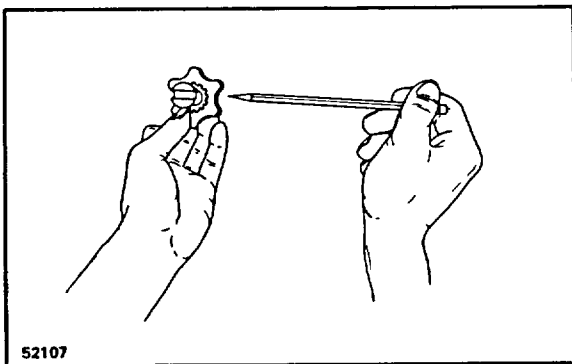

Figure 3-8. Alignment of Drive Slot
16. Install the splined end of the drive (21) into the meter gear star so that the slot at the control end of the drive is aligned with the valleys between the meter gear teeth (Fig 3-8).